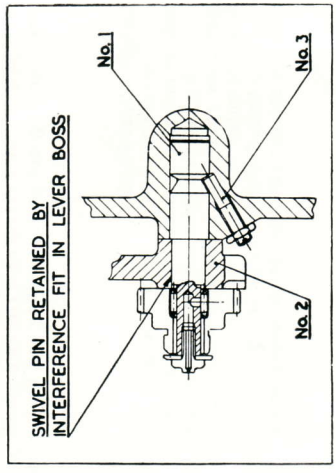

Fig. 39
Reference to Fig. 39 will show that the tumbler reverse assembly is supported on the headstock by a long swivel pin (1) which is a press fit in the tumbler reverse lever (2). The assembly is retained in position by the thrust screw (3) which draws the tumbler reverse lever back against the pivot boss facing on the headstock.